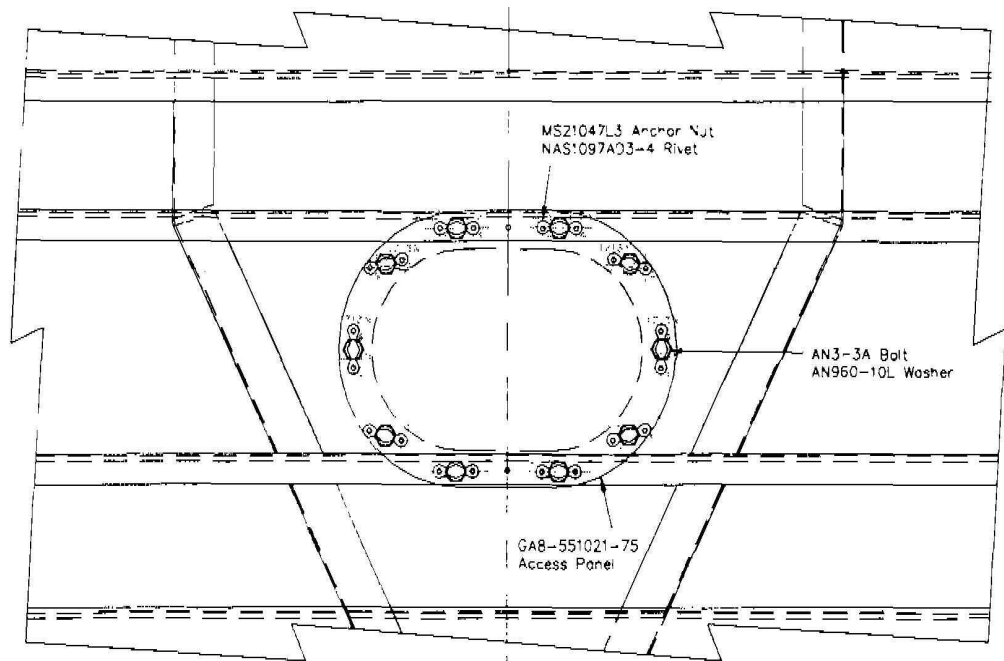

Figure 4 - Access hole with anchor nuts installed
- (g) If no cracking is found, attach anchor nuts as per the figure 4 below. Attach access panel with bolts (or screws) and washers specified.